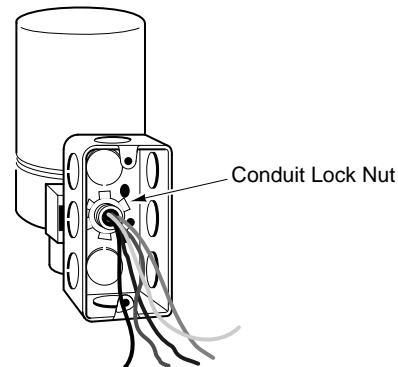

Figure-13 Attachment of Conduit Box to Threaded Adaptor.
- Install the rigid conduit, the flexible conduit, etc. to the conduit box as required. Refer to Figure-13 .